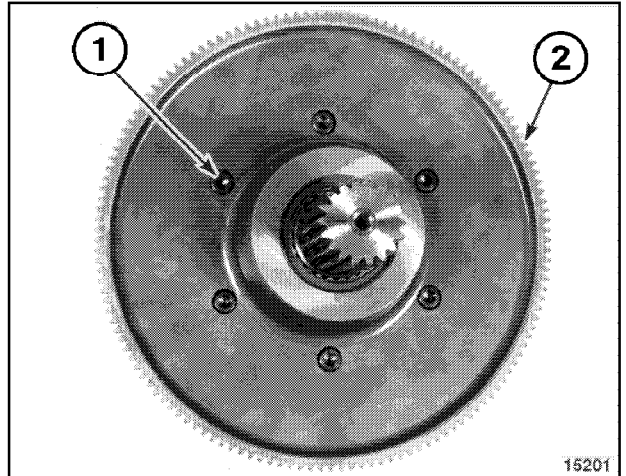

Figure 52
- F. Remove six socket head bolts (1, Figure 52) securing bull gear (2) to clutch housing.
NOTE: *It may be necessary to leave two bolts (1, Figure 52) in housing 180° apart and tap off reverse clutch housing.*